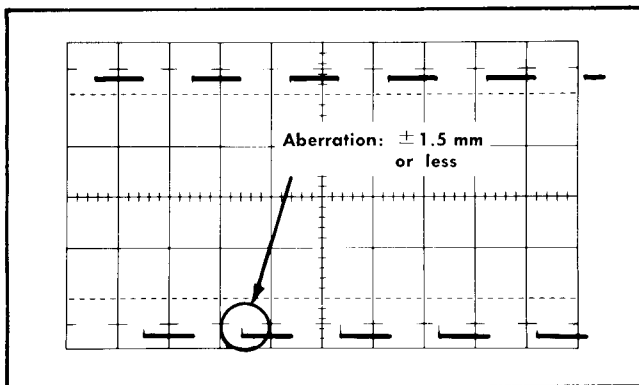

Fig. 5-3. Typical display obtained when checking cross neutralization.
d. Check—Aberration on lower leading corner of waveform should be no greater than $\pm 3\%$ (± 1.5 mm). See Fig. 5-3.
f. Check—Aberration on upper leading corner of waveform should be no greater than $\pm 3\%$ (± 1.5 mm). Similar to Fig. 5-3 except the upper corner is the point of interest.
c. Apply a 1-kHz signal from the Type 105 through two 10X Attenuators, coaxial cable, BNC-UHF adapter (item 12), 50-ohm Pi attenuator (item 11), BNC-UHF adapter (item 12), and a BNC-BNC adapter (item 13) to the —INPUT connector. Connect all devices in the order given.